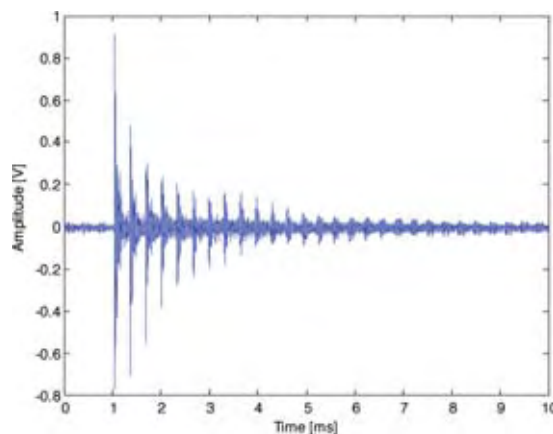

Fig. 8: Multiple reflections of a longitudinal wave in a single wire (100 kHz excitation).
The LDV is particularly well suited to making attenuation measurements since it is noncontact and therefore does not influence wave propagation. The attenuation coefficient is estimated according to Eqn. (5), where the maximum amplitudes of the end reflections have been used in computations. Depicted in Fig. 8 is the LDV-measured axial velocity for a 100 kHz drive frequency. The attenuation coefficient of the first longitudinal mode at this excitation frequency is estimated to be $k_2 = 0.15 \text{ m}^{-1}$. Thus, the elastic wave will propagate approximately 30m before the signal level falls below a measurable level, specifically when the signal-to-noise ratio (SNR) < 2 . Obviously, this material damping estimate is somewhat high since the driving transducer partially absorbs the elastic energy.